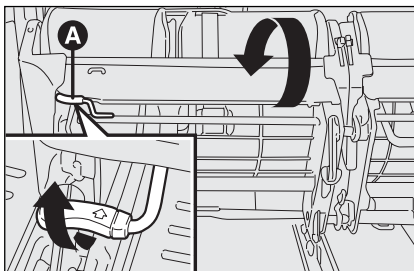

fig. 26
- lift lever **A**-fig. 26 and fold the seat;